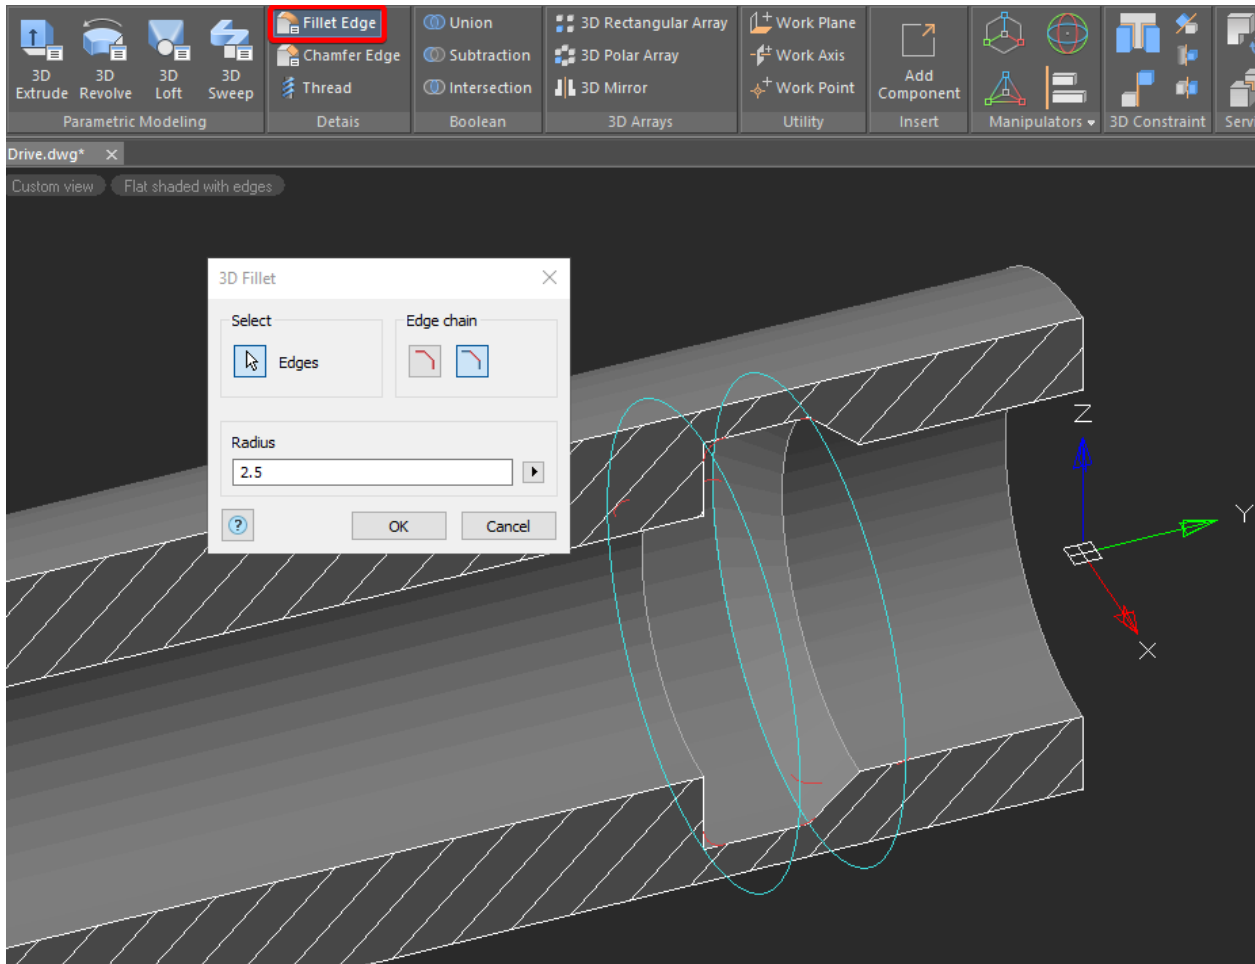

Fig. 19. Creating the Fillets
6.1. Activate the **3D Fillet** command (the **Fillet Edge** button) located on the **3D Tools** tab. Enter the radius value 2.5 in the dialog box. Then select the edges of the areas where the fillets will be drawn. Confirm the elements created with **OK** (Fig. 19).